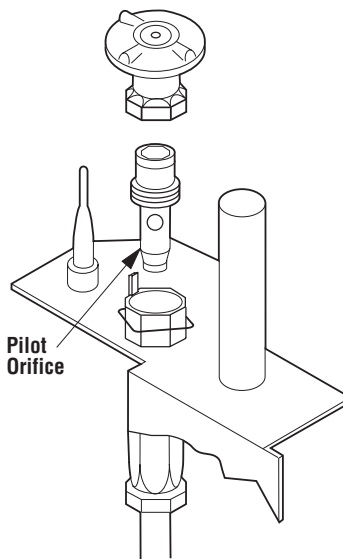

Figure 3
Step 6. Refer to **Figure 3** and remove the pilot hood assembly to access the hexed pilot orifice. Using a (4mm) Allen wrench, remove and replace the orifice with the one provided with this kit. **Figure 4** shows the pilot reassembled, with proper flame. **Figure 5** shows a typical pilot to burner relationship.
Step 10. Refer to **Figure 3** and remove the pilot hood assembly to access the hexed pilot orifice. Using a (4mm) Allen wrench, remove and replace the orifice with the one provided with this kit. **Figure 4** shows the pilot reassembled, with proper flame. **Figure 5** shows a typical pilot to burner relationship.